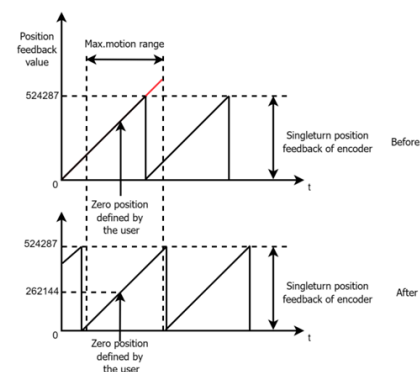

Figure 9-4 Comparison Figures of Before/After Zero Position Calibration of Single-Turn eRob
Due to the installation method, when the singleturn rotary actuator operates with the zero position defined by the user and reaches the maximum motion range, the position feedback value may exceed the boundary value (0 or 524287). The user can set the zero position to 262144 by using zero position calibration function thereby ensuring the maximum motion range the singleturn eRob rotary actuator is $-175^{\circ}\sim 175^{\circ}$ and the position feedback value is within the singleturn position range as shown in Figure 9-4.
*2 The correct reset operation is shown in Figure 9-4. Connect to eTuner, open “Encoder” interface and click “Reset Load Encoder”.